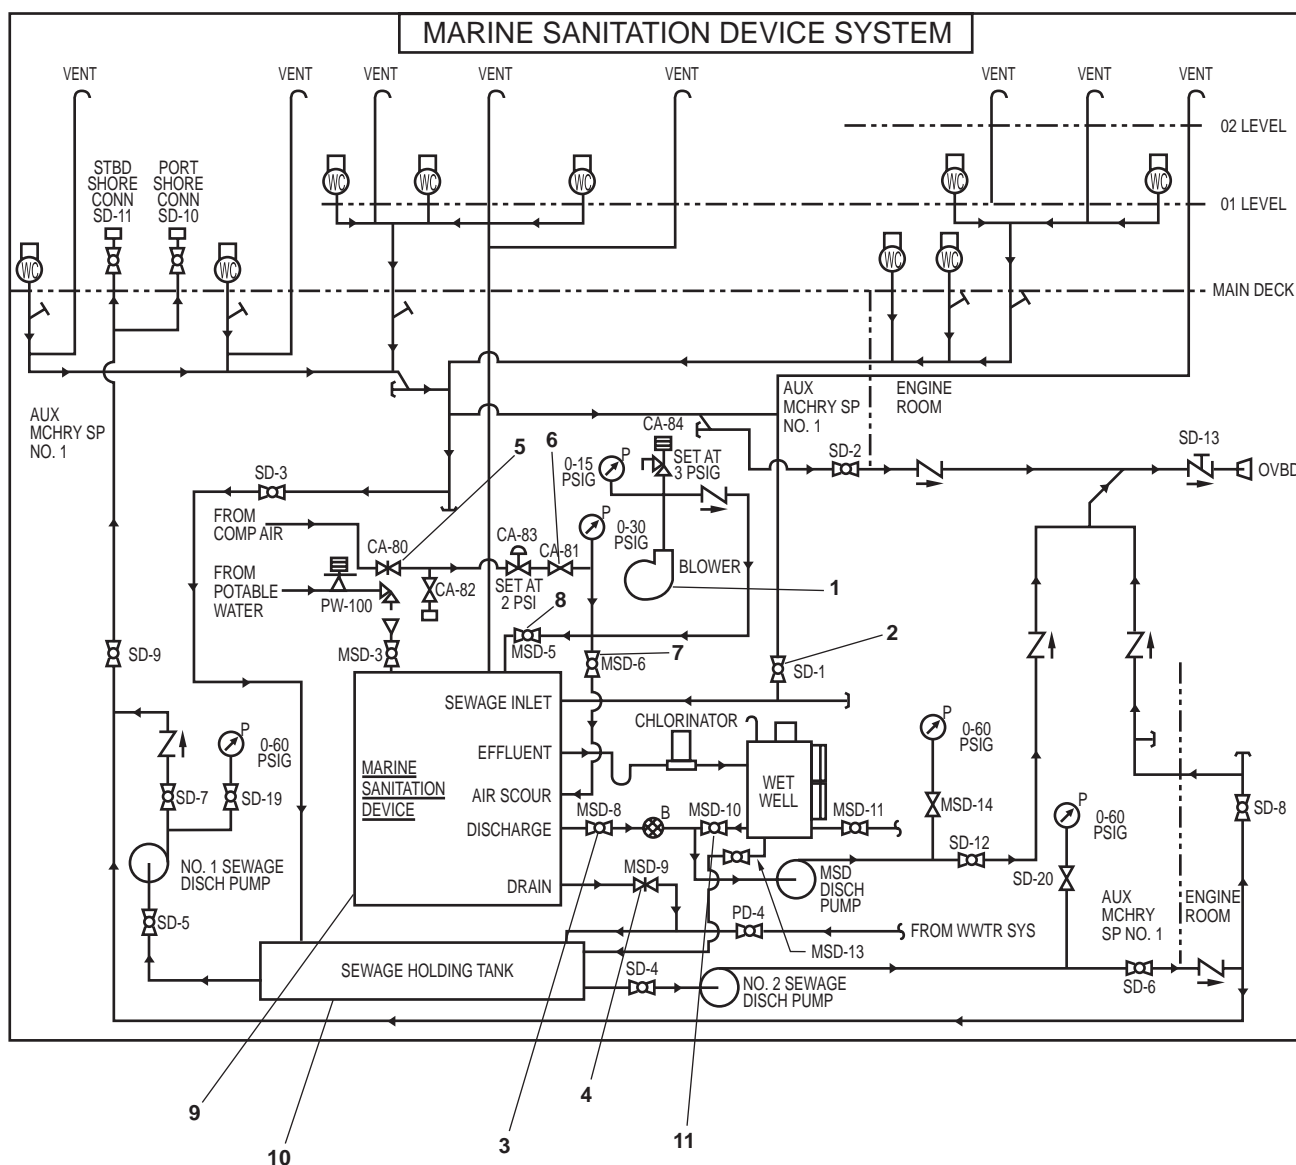

Figure 4. MSD Piping and Valves Schematic
3. Verify that the blower (figure 4, item 1) has stopped.
4. CLOSE valve SD-1 SEWAGE INLET TO MSD (figure 4, item 2).
5. CLOSE valves MSD-8 MEDIA TANK PUMP-OUT DR (figure 4, item 3) and MSD-9 MEDIA TANK DRAIN (figure 4, item 4).
6. CLOSE valves CA-80 COV-LP AIR (figure 4, item 5) and CA-81 LP AIR SHUTOFF (figure 4, item 6).
- 7. OPEN valve MSD 6 BLOWER DISCH TO AIR SCOURING SOV (figure 4, item 7).
- 8. CLOSE valve MSD 5 BLOWER DISCHARGE SHUTOFF (figure 4, item 8)
- 10. Verify that the blower (figure 4, item 1) has started and is supplying 2 PSI (0.138 bar) to the media tank (figure 4, item 9).
11. Allow the air to scour the bottom of the media tank (figure 4, item 9) for at least 30 minutes.
13. Verify that the blower (figure 4, item 1) has stopped.
14. CLOSE valve MSD-6 BLOWER DISCH TO AIR SCOURING SOV (figure 4, item 7).
15. OPEN valve MSD-9 MEDIA TANK DRAIN (figure 4, item 4) and drain the contents of the media tank (figure 4, item 9) to the sewage holding tank (figure 4, item 10).
16. Allow the media tank (figure 4, item 9) to drain for a minimum of 30 minutes.
17. CLOSE valve MSD-9 MEDIA TANK DRAIN (figure 4, item 4).
19. OPEN valve SD-1 SEWAGE INLET TO MSD (figure 4, item 2).
2. OPEN valve MSD-9 MEDIA TANK DRAIN (figure 4, item 4) and empty the clean water from the media tank (figure 4, item 9) into the sewage holding tank (figure 4, item 10).
4. Verify that valve MSD-5 BLOWER DISCHARGE SHUTOFF (figure 4, item 8) is CLOSED and that the blower (figure 4, item 1) is not operating.
1. Close valve MSD-9 MEDIA TANK DRAIN (figure 4, item 4).